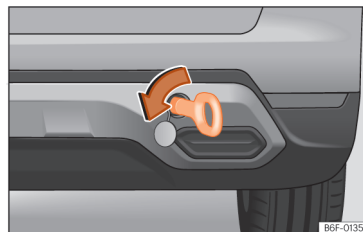

Fig. 167 Right side of the rear bumper: towline anchorage screwed in.
- Screw the towing eye in the housing by turning it to the maximum **anticlockwise** »» Fig. 167 , »» page 259. Use a suitable object that can completely and securely tighten the towing eye in its housing.